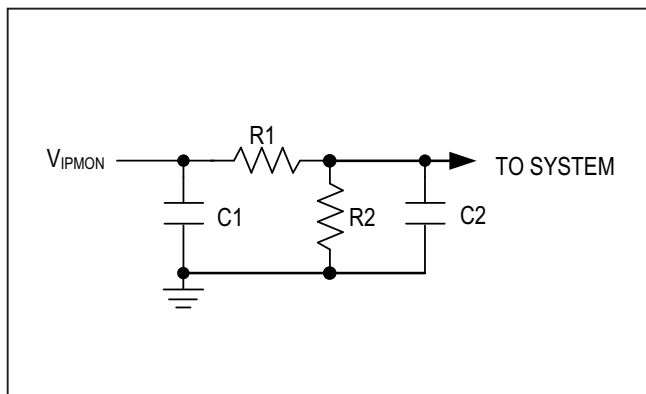

Figure 2. External RC Network to Adjust V_{IPMON}
Adding a resistive voltage divider at the IPMON output (Figure 2) allows the overall V_{IPMON} gain (G) to be adjusted per the following equation:
Figure 2 shows an ORing application where a resistive divider connected from IN1 at the PC pin controls the turn-on of the ORing MOSFET, MD2, in the IN2 supply path. When the IN1 supply voltage falls below 4.5V , it turns on the ORing MOSFET, MD2, causing the ORing output to be switched from the main 5.0V supply at IN1 to the auxiliary 5.0V supply at IN2. This configuration permits the load to be supplied from a lower IN1 supply as compared to IN2 until IN1 falls below the MD2 turn-on threshold. The threshold value used should not allow the IN1 supply to be operated at more than one diode voltage below IN2. Otherwise, MD2 conducts through the MOSFET's body diode. The resistive divider connected from CSP at the ON pin provides the undervoltage threshold of 2.6V for the ORing output supply.